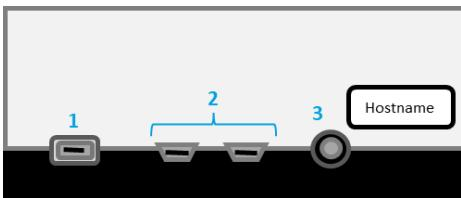
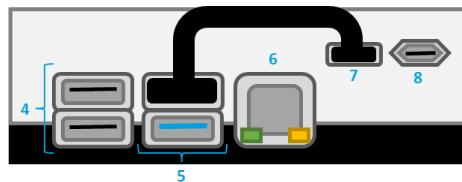
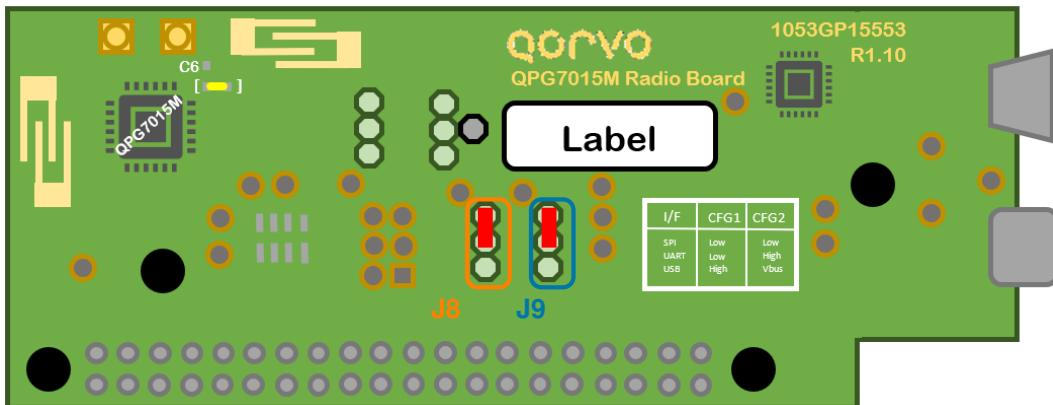

Figure 2.2: QPG7015M Gateway in Qorvo® IoT Dev Kit Pro front view
Figure 2.3: QPG7015M Gateway in Qorvo® IoT Dev Kit Pro right view
Figure 2.4: QPG7015M Terminal over Serial access
1. **Terminal over serial:** Connect the microUSB cable to port 8 shown in figure 2.3 and to your computer. Apply power to port 1 shown in figure 2.2. J8 en J9 should be configured as "RPi UART <> USB" as shown in figure 2.4. This should be already the case in the off-the-shelf QPG7015M Gateway in the Qorvo® IoT Dev Kit Pro.
- Secure SHell (SSH): Connect the QPG7015M Gateway to your local area network using an ethernet cable on port 6, shown in figure 2.3 and apply power to port 1 shown in figure 2.2. From a computer that has an SSH client application installed the QPG7015M Gateway can be accessed over SSH by running from a command prompt (Windows) or terminal (Linux):
The hostname can be found on the casing as depicted in figure 2.2. The username of the DK is *pi*, the password is *raspberry*.
- Keyboard and screen: Connect a USB keyboard to port 4 or 5 shown in figure 2.3 and attach a screen to a HDMI micro port 2 shown in figure 2.2. Please ensure the screen is connected before applying power to port 1 of the DK. The user of the DK is *pi*, the password is *raspberry*.
! In general we recommend to always attach an ethernet cable to port 6, shown in figure 2.3 and apply power to port 1, shown in figure 2.2. The ethernet connection gives the RPi connection to the internet and allows following advantages: